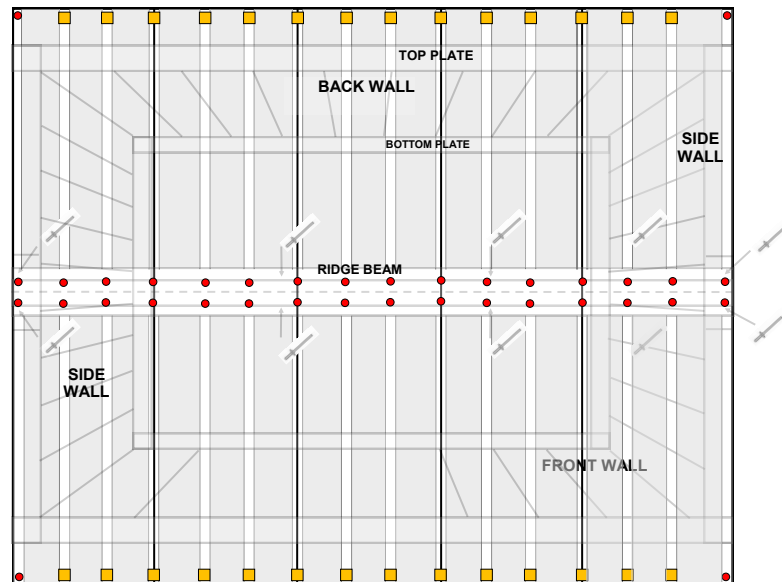

fig.2
Use the 50mm Clouts only on ribs covered by flashings, shown on pg 13 fig.2.
- Secure with 2 x 75mm screws through the top of the Jack Studs into the Timber Top Plate (fig. 2).
- Rivet the 2 ridge flashings together using 4 rivets, so total flashing is 2.550m long. Rivet the Ridge Flashing to the centre of the roof using 8 x rivets as shown (fig.2).